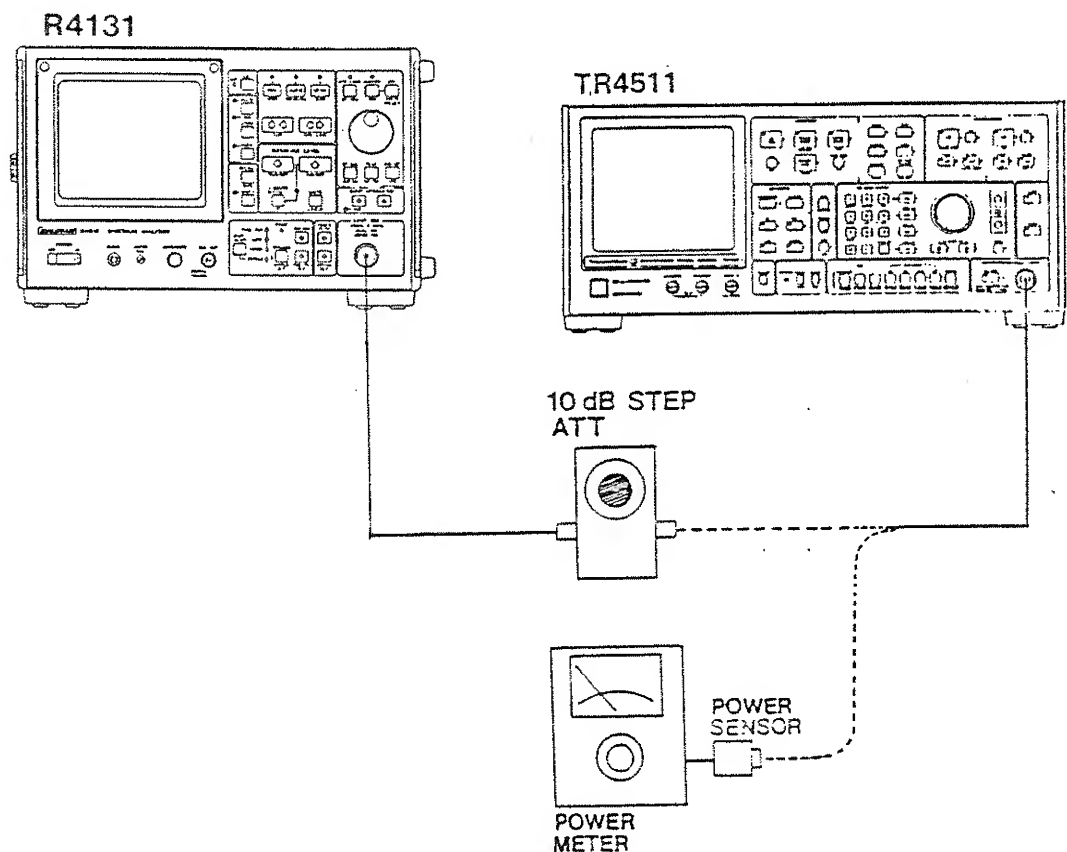

Figure 11-18 Gain Compression Test Setup
- ② Set the output frequency of the synthesized signal source to 200 MHz (CW) and connect it to the power meter, adjusting the synthesized signal source for 0 dBm output.
- ③ Set the 10 dB step ATT to 10 dB and connect it to the spectrum analyzer as shown in Figure 11-18.